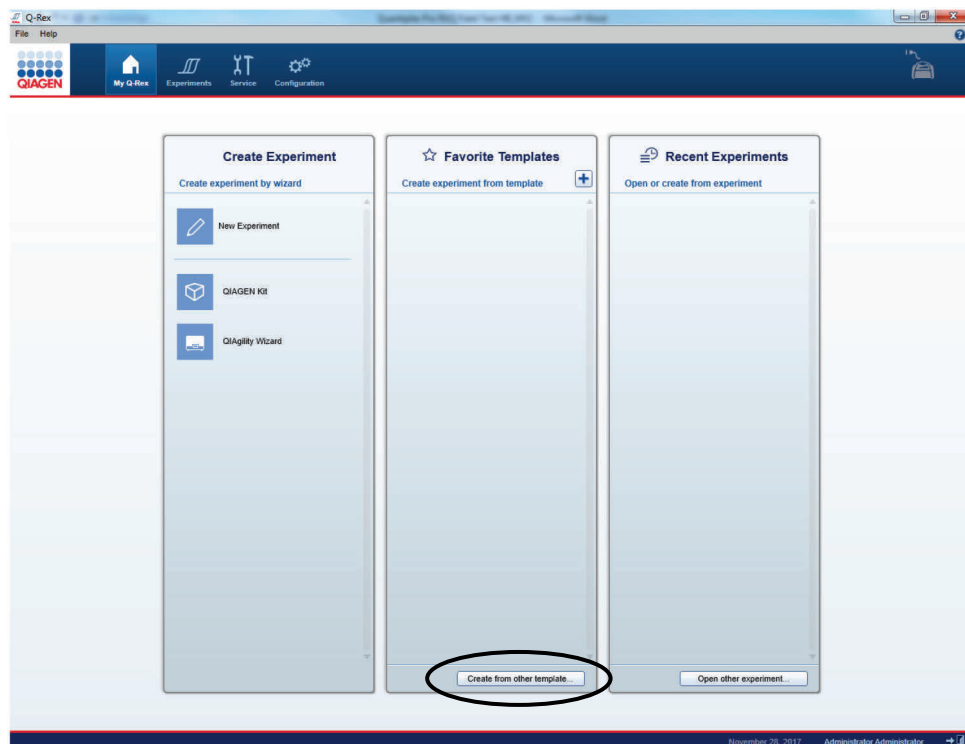

Figure 1. Setting up a quantification run in Q-Rex.
10. Select Create from other template (Figure 1).